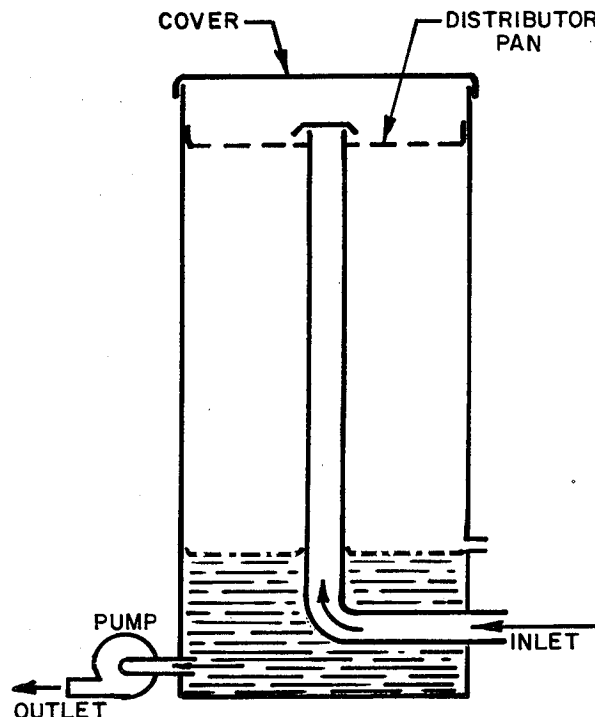

Figure 4 - Chiller Tank
1. Remove the top casing and remove the cover from the chilled water tank, see Figure 4.